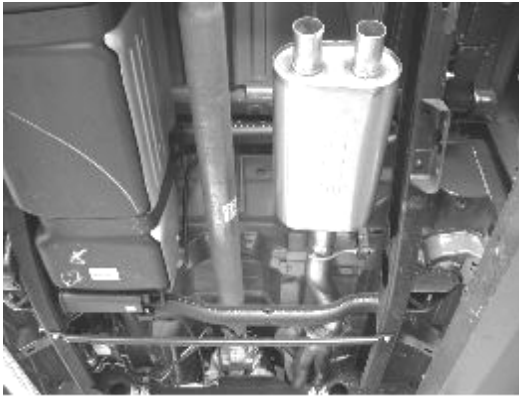

Figure 3
1. Place the muffler assembly in position as shown in figure 3 and bolt flange together finger tight using the original hardware.